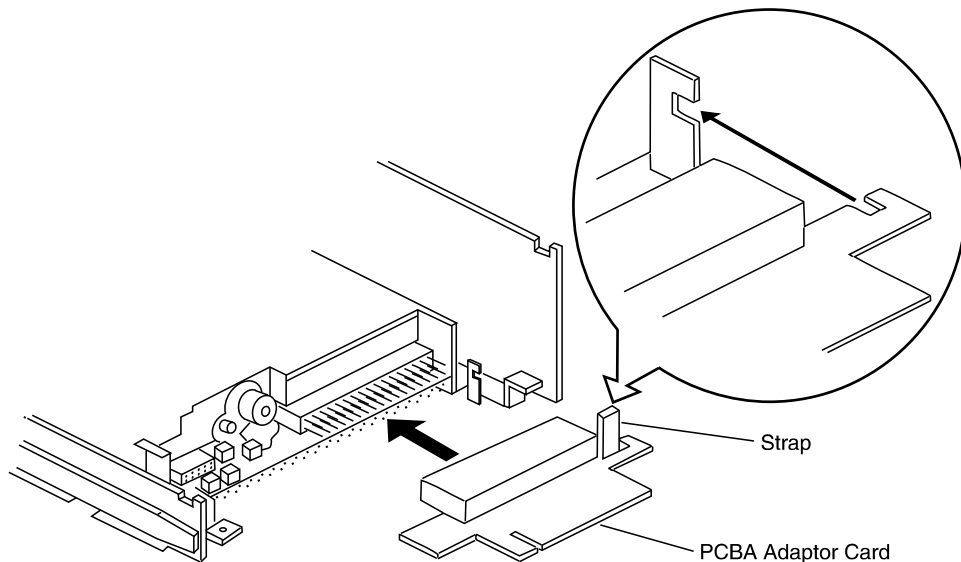

Figure B-8. Floppy Disk Drive Unit PCBA 5 Inch Adapter Card
3. Hold the new FDD by the metal sides and carefully re-assemble it into the 5.25" mounting hardware and bezel. Re-secure the FDD using the four 3 millimeter Phillips head screws removed in step 14 of "Removing The Floppy Disk Drive Unit". Re-assemble the PCBA adapter board, being careful to re-align the tabs shown in Figure B-8.